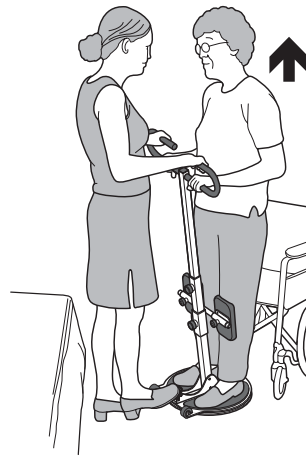

Figure 4c.
5. Unlock the base plate and revolve the patient. Securely hold the handle bars at all times, as shown in **Figure 4c**.